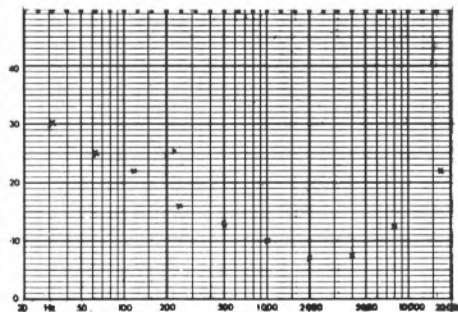

Fig 1: Mechanical Impedance Ultimo 20A (1.8g, 0dB = 33 Mech Ω).
- 2) The non-linear function of magnitude of the cartridge's mechanical impedance (fig 1).